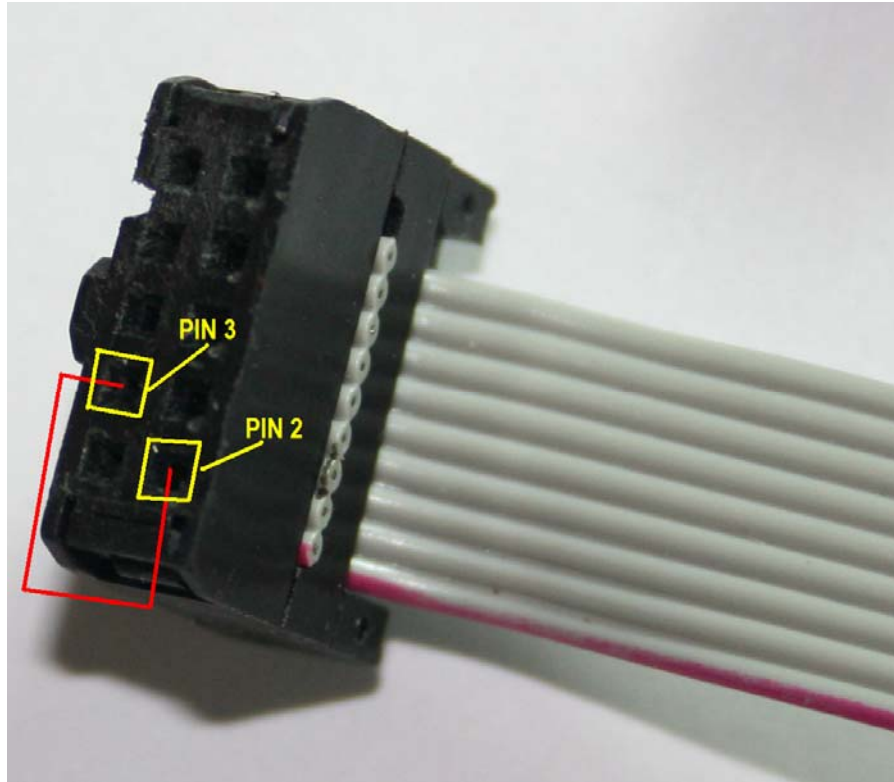

Figure 83. Serial Cable Loopback
2. Make sure that the cable is plugged in correctly. The red stripe should be at the bottom next to pin1 of P9. Some cables may have the flat cable extending away from the BeagleBoard and others may be extending toward the middle of the BeagleBoard. **Figure 83** shows the proper orientation of the IDC serial cable.